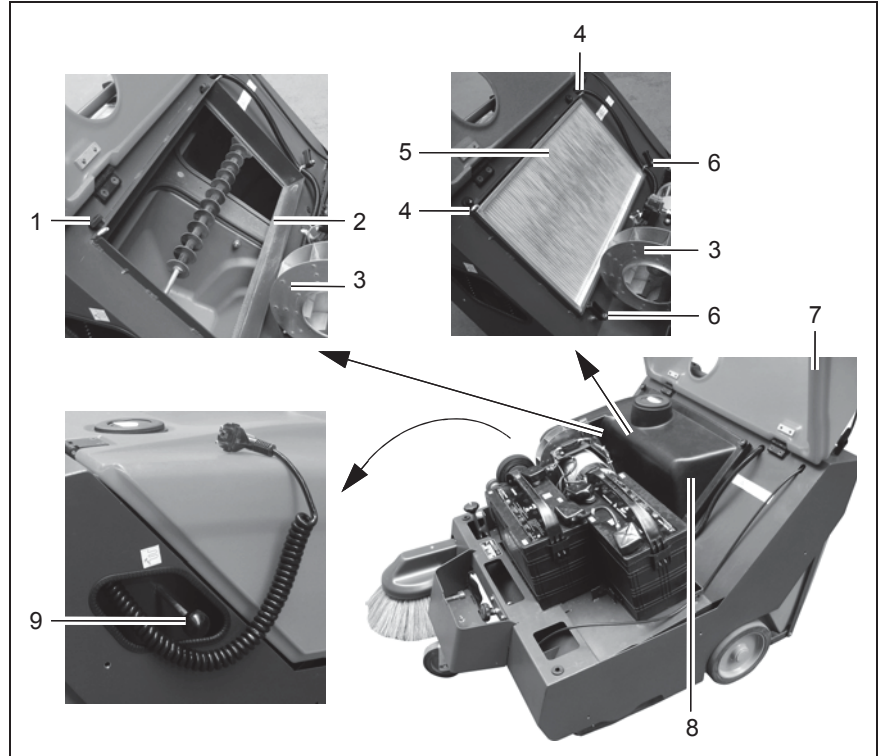

Fig. 26
Clean the panel air filter (Fig. 26/5) in the dust vacuum regularly and as necessary using the shaking device:
1. When the engine is switched off, pull/push the lever (Fig. 26/9) of the shaking device quickly, several times.
1. Unlock the hood (Fig. 26/7) using a square wrench and open the hood (Fig. 26/7).
Ensure the engine has stopped before opening the hood (Fig. 26/7). Risk of injury through belt drive and rotating fan (Fig. 26/3)!
2. Release the top filter cover locks: Unscrew the knurled screw (Fig. 26/1) from the threaded pins (Fig. 26/4).
3. Release the bottom filter cover locks: Pivot the hinged locks (Fig. 26/6) outwards.
4. Remove the filter cover (Fig. 26/8).
5. Remove the panel air filter (Fig. 26/5).
1. Drop the panel air filter (Fig. 26/5) a few times from a small height onto a level, solid surface. Be careful not to damage the filter ribs!
The ground must not have any surface irregularities. Do not drop the panel air filter (Fig. 26/5) onto the ground at a slant.
Never install panel air filters (Fig. 26/5) which have damaged filter ribs!
If the panel air filter (Fig. 26/5) is removed, check the self-adhesive sealing strips (Fig. 26/2) for signs of damage. Damaged sealing strips (Fig. 26/2) must be replaced:
1. Pull off the damaged sealing strips (Fig. 26/2).
2. Clean any residual adhesive from the surfaces on which the sealing strips (Fig. 26/2) must be adhered.
3. Adhere the new sealing strips (Fig. 26/2).
1. Insert the thoroughly cleaned or new panel air filter (Fig. 26/5) from the correct side in the filter support frame.
Pay attention to the labeling on the side of the panel air filter (Fig. 26/5)!
2. Replace the filter cover (Fig. 26/8).
3. Close the bottom filter cover locks: Pivot the hinged locks (Fig. 26/6) over the edge of the filter cover (Fig. 26/8).
4. Close the top filter cover locks: Screw the knurled screws (Fig. 26/1) on the threaded pins (Fig. 26/4).
5. Close the hood (Fig. 26/7) so that it audibly locks.
5. Check whether dust has accumulated on the inner side of the panel air filter (Fig. 26/5).
Do not open the hood (Fig. 26/7) when the engine is running. Risk of injury through belt drive and rotating fan(Fig. 26/3)!
Do not open the hood (Fig. 26/7) when the engine is running. Risk of injury through belt drive and rotating fan (Fig. 26/3)!
1. When the engine is switched off, hood (Fig. 26/7) is open and filter cover (Fig. 26/8) removed, check whether dust escapes at the edges of the panel air filter (Fig. 26/5).
2. If this is the case, check the sealing strips (Fig. 26/2), refer to paragraph 5.10.4 and replace, if necessary.
3. Check the panel air filter (Fig. 26/5) and replace, if necessary. The frame of the panel air filter (Fig. 26/5) must not be twisted nor show signs of damage. Ensure that the panel air filter (Fig. 26/5) has been inserted true to side, refer to paragraph 5.10.5.
4. Repeat this test a certain time after cleaning. If dust continues to escape at the edges of the panel air filter (Fig. 26/5), contact a Hako service center.